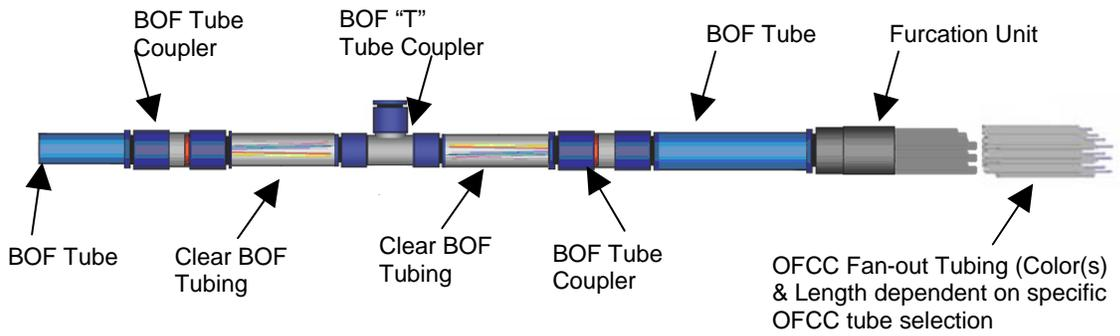

Figure 10
Step 3 – Carefully insert the furcation assembly tube coupler onto the BOF tube and seat firmly (Figure 10). Ensure that no fibers are kinked within the tube as it is inserted into the tube coupler. Apply a light axial load of approximately 22 N (5 lbs) between the BOF tube and the furcation unit to verify coupler engagement.